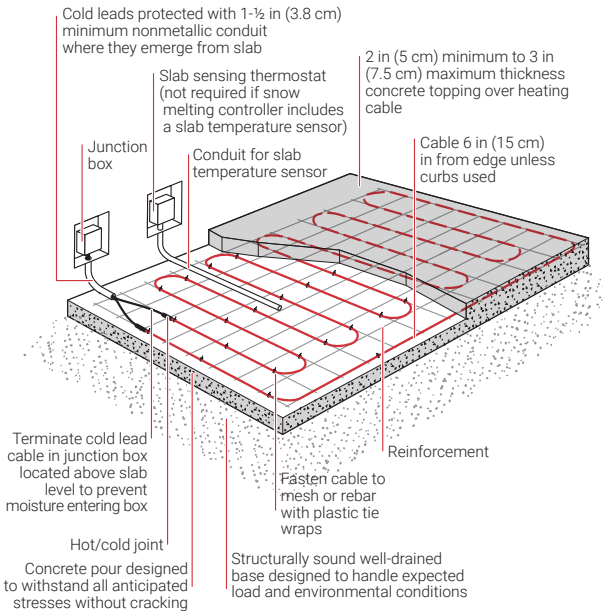
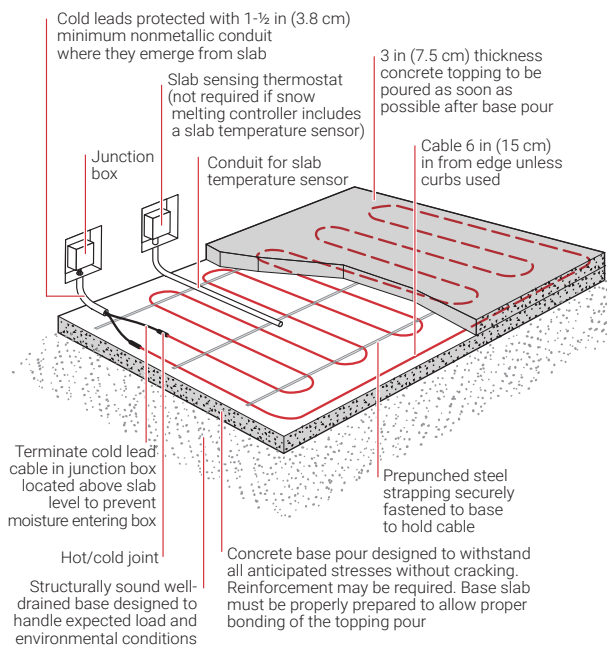

Figure 14: Single-pour concrete
Figure 15: Two-pour concrete
3. **Single-pour:** If supporting cable on the reinforcement, ensure that the concrete thickness over the heating cable will be 2 in (5 cm) minimum to 3 in (7.5 cm) maximum; otherwise, the cable must be supported on mesh elevated above the reinforcement. If using fiber reinforced concrete, the heating cable must be supported on a mesh such that the concrete thickness over the cable will be 2 in (5 cm) minimum to 3 in (7.5 cm) maximum. Refer to Section 2.1 and Figure 14 for further details.
**Two-pour:** Install prepunched strapping at 3 to 4 ft (0.9 to 1.2 m) intervals with additional runs, where required, to hold cable loops securely. Fasten the strapping in place using an appropriate fastening method (see Figure 15).
4. **Single-pour:** Lay out the heating cable in a serpentine pattern on top of the reinforcement/mesh and fasten in place with plastic tie wraps (do not use wire), at the predetermined spacing, ensuring that the watt density is as specified in the design requirements (see Section 2.1). Typical cable spacing ranges between 3 in (7.5 cm) minimum to 10 in (25 cm) maximum on centers. For sloping ramps, such as a ramp to an underground parking garage, serpentine the cables across the width of the ramp to improve snow melting effectiveness. Stay at least 6 in (15 cm) from edges and outer walls (see Figure 14). Refer to Section 2.1 if crossing control and expansion joints.
centers. For sloping ramps, such as a ramp to an underground parking garage, serpentine the cables across the width of the ramp to improve snow melting effectiveness. Stay at least 6 in (15 cm) from edges and outer walls (see Figure 15 for details). Refer to Section 2.10 if crossing control joints.
5. Install the hot/cold joints so that they are at least 6 in (15 cm) in from the edge of the slab, ensuring that they will be completely embedded in the concrete (see Section 2.6). Protect the cold leads with nonmetallic conduit where they emerge from the slab (see Figure 14 and Figure 15 and Section 4 for details).
9. **Single-pour:** Pour the concrete and ensure that it is thoroughly consolidated with a high frequency vibrator. Continuously check the insulation resistance of the heating cables to verify that the cables are not damaged during the concrete pour – minimum acceptable IR is 20 MΩ at 1000 Vdc. Ensure that the concrete cover over the heating cables is a minimum thickness of 2 in (5 cm) to 3 in (7.5 cm) maximum (Figure 14). Ensure that the concrete depth over the heating cables is maintained if using a herringbone pattern (see Step 10).